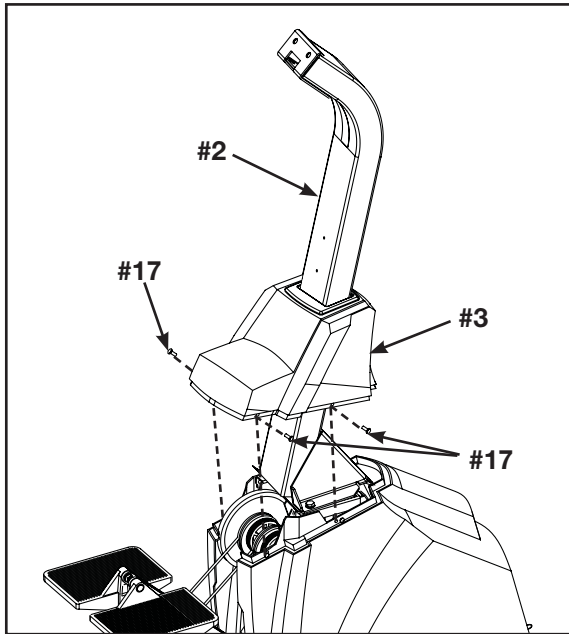

Figure 5
- B. Slide the display upright collar (#3) down over the display upright (#2) and attach to the base (#1) using four screws 10-24 x 3/4" (#17), as shown in Figure 5.